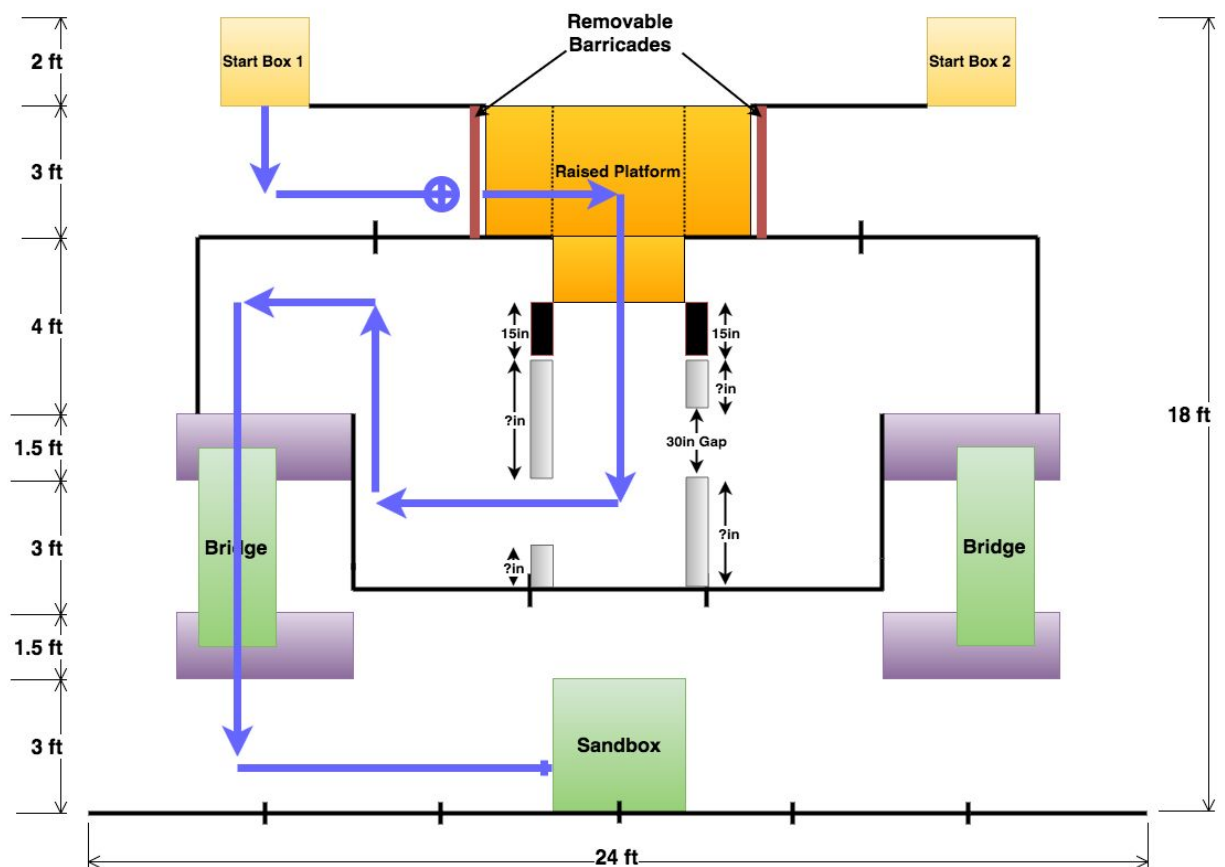

Figure 2: Schematic plan view of the playing field with a nominal robot roving path.
- The first ROI will be the “elevated air region”, which will rest on an elevated surface. This surface will be elevated 15cm off the ground, and be an area measuring 90cm x 90cm. To reach this surface, your robot will climb a ramp that is 45 centimeters long, having a carpet-like surface. Having climbed the ramp, your robot will elevate an anemometer and temperature sensor package on your boom to a height of at least 75cm above the base of the robot. Your robot will test for both temperature and a wind speed condition, and report the values it measured. The nominal route to this ROI is shown in blue in Figure 2.
undisclosed amount of water. Your robot will test this region for surface water through the use of a conductivity probe. The nominal route to this ROI is shown in blue in Figure 2.
- Between the regions of interest your robot will encounter various obstacles, and must be capable of navigating around them. The first barricade will be found directly at the bottom of the ramp to the elevated air region, as shown in the diagram. Your robot is to detect the presence of this barricade and safely idle indefinitely until it is removed. This is indicated with a blue ✚ in Figure 2. When the barricade is removed during the competition, your robot must sense this and then proceed up the ramp and continue the course.